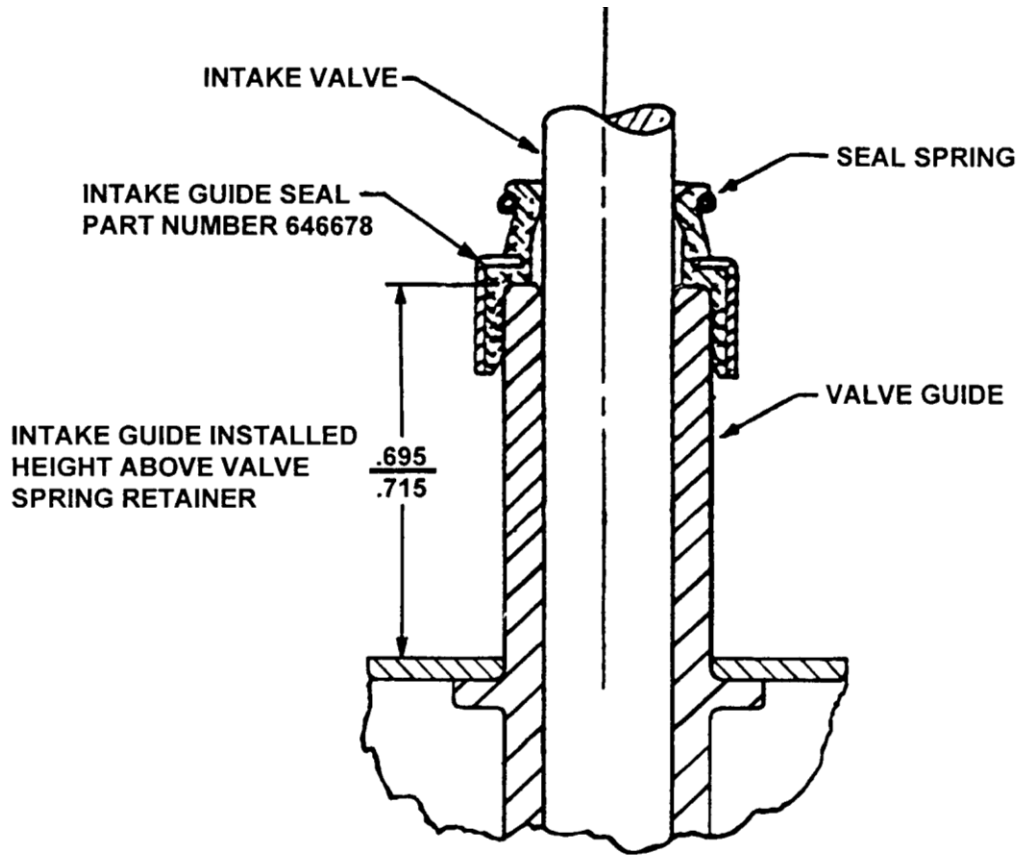
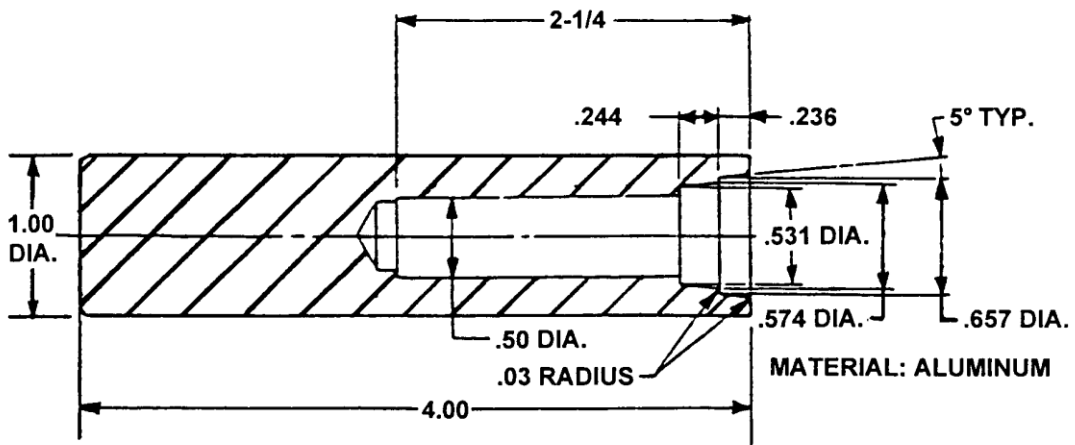

FIGURE 1.
FIGURE 2. INTAKE GUIDE SEAL INSTALLATION TOOL
4. Inspect the intake valve guide seal for damage to the seal lip and/or missing spring. Figure 1 shows an intact and properly seated intake guide seal. Repeat inspection on all cylinders.
5. If seal springs are intact and the seals do not exhibit any damage, make certain that the seal is completely seated on the valve guide by tapping the seal using a plastic mallet and installation tool. Figure 2 provides proper dimensions to produce an installation tool. Proceed to section "C", step 7 and reinstall the intake parts as instructed.
6. Remove the seal from the guide and valve stem. Coat new seal P/N 646678 and intake valve guide with clean 50 weight aircraft engine oil. Install seal over valve stem and into position on the valve guide by hand. Using the installation tool and a plastic mallet, see Figure 2, tap the seal onto the guide until seal is completely seated. Make certain that the seal is firmly seated on the guide. See Figure 1.